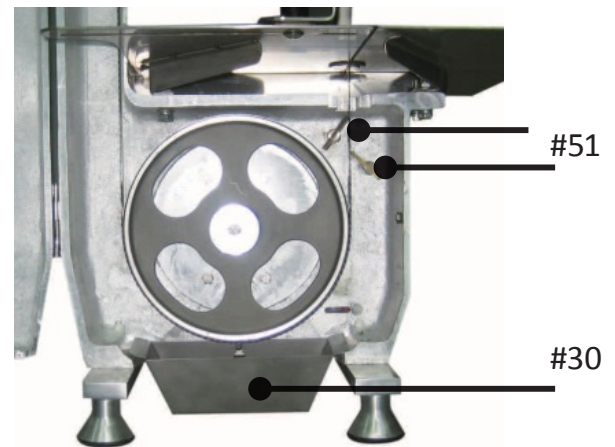

Fig. 3
1. Before using the machine, check the Scraper (#51) to ensure that it leans against the blade, but ensure that it does not touch the teeth of blade. The scraper removes meat scraps from the blade when the machine is working. Empty the scrap tray (#30) regularly. (See below FIG 3 above).